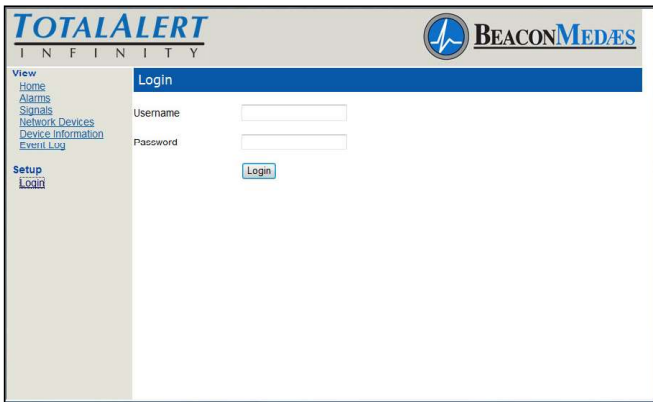

Figure 191: Login Dialog
2. The web browser will request a username and password (Figure 191). The factory defaults are: